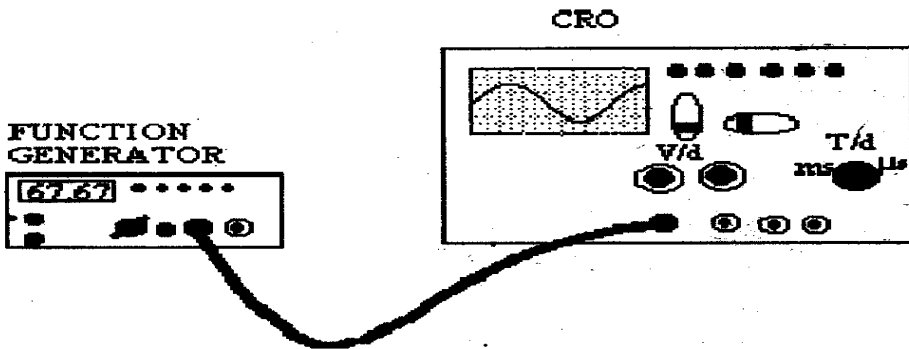

Figure 1 Connection diagram for measurement of amplitude and frequency
- 2) Connect the output of the function generator to one of the two channels of CRO as shown in fig. 1.